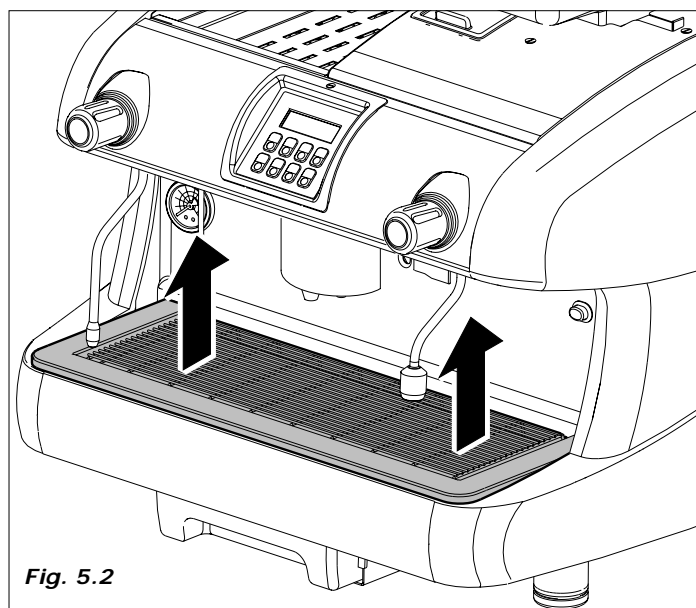
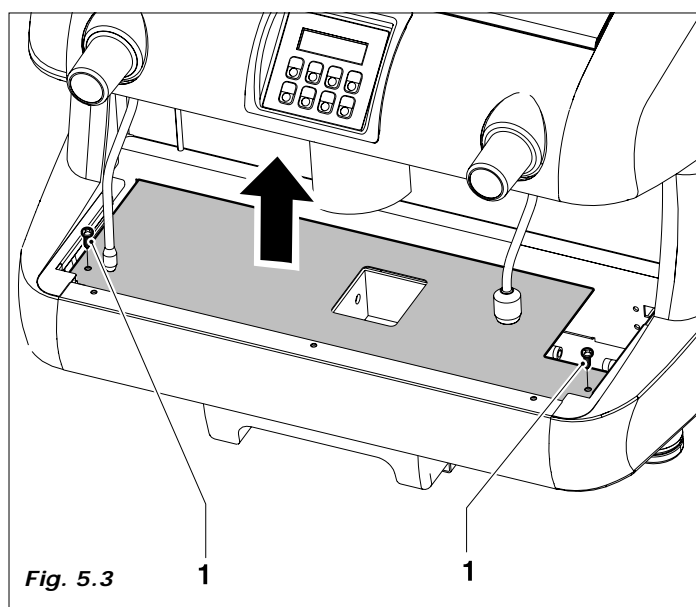
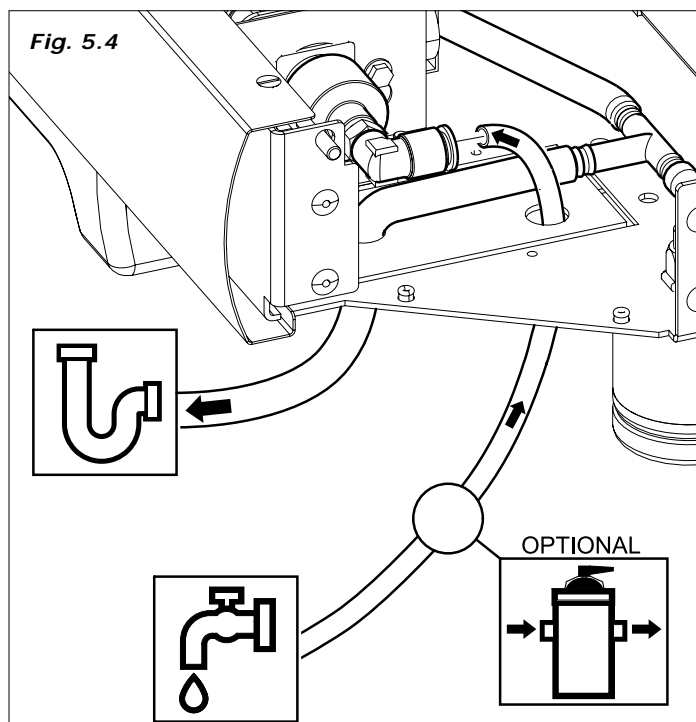

Fig. 5.2
Fig. 5.3
Fig. 5.4
### 5.1.2 Water mains supply (Fig. 5.2, Fig. 5.3 and Fig. 5.4)
- 1 lift the drop collector tray (Fig. 5.2)
- 2 Remove screws (Fig. 5.3 – item 1) then remove the flat safety cover plate.
- 3 connect one end of the tube to the tube junction as illustrated in Fig. 5.4.